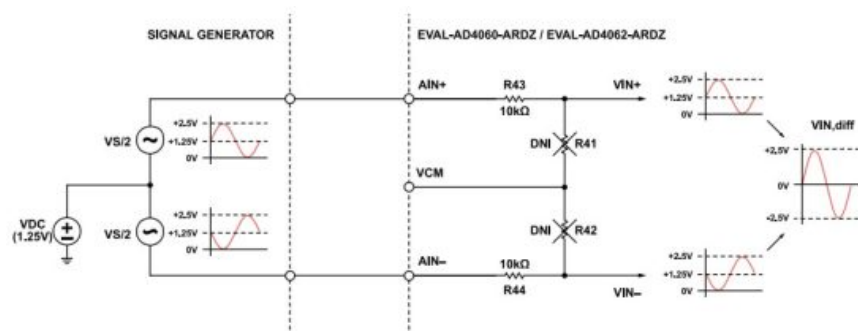

Figure 15. Biased Differential Signal Generator Example
► For signal generators with differential outputs that provide their own DC offset, the VCM input can be left disconnected. In the factory default configuration, the R41 and R42 resistors that are used with the VCM input will attenuate the differential input signal by half. It is recommended to disconnect R41 and R42 when using these types of signal generators, as shown in Figure 15.